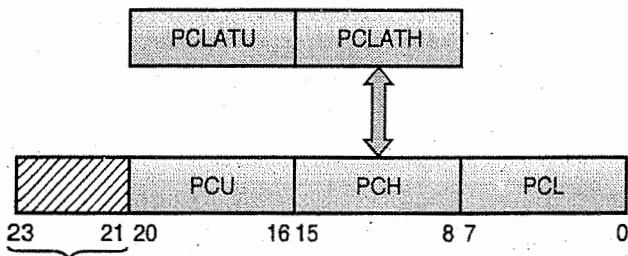

Fig. 4.9.4 : Program counter
- The Program Counter (PC) is a **21 bit register** that holds the address of an instruction in memory. Fig. 4.9.4 shows the program counter. Its **function** is to keep the track of program execution. The program instruction bytes are fetched from locations in memory that are addressed by the program counter.
- As shown in Fig 4.9.4 the lower byte of program counter is called as the **PCL register**. This register is directly accessible to the user.